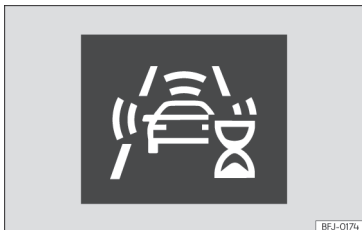

Fig. 179 On the instrument panel display: initial system self-calibration indication.
- In the first few instants of driving after switching on the ignition, due to the system's initial auto-calibration. During this period, a status icon »» Fig. 179 is displayed.